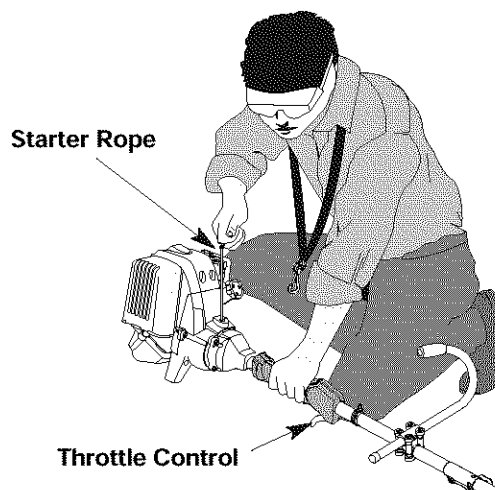

Fig. 22
WARNING: Avoid accidental starting. Remain in the starting position when pulling the starter rope (Fig. 22). The operator and unit must be in a stable position while starting to avoid serious personal injury.
5. With the unit in the starting position (Fig. 22), **DO NOT SQUEEZE THE THROTTLE CONTROL**. Pull the starter rope briskly 5 times. If the engine starts to run before the fifth pull, proceed to step 6. If the engine does not start, go back to step 4.
1. Release your hand from the throttle control (Fig. 22). Allow the engine to cool down by idling.